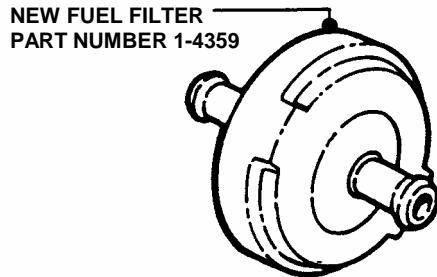

FIGURE 3.14
3. Install new fuel filter part number 1-4359. See Figure 3.14.